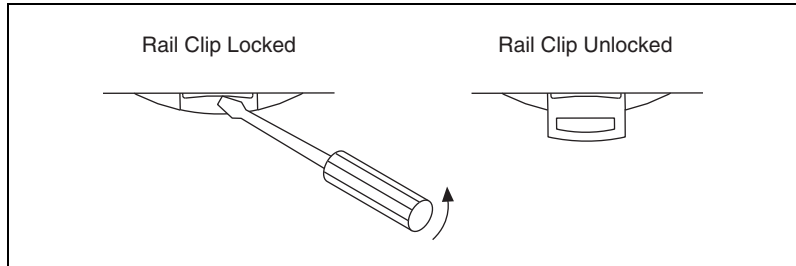

Figure 2-10. DIN Rail Clip
1. Use a flathead screwdriver to open the DIN rail clip to the unlocked position, as shown in Figure 2-10.
- Slide the FBUS-HSE/H1 LD to the desired position along the DIN rail. After the FBUS-HSE/H1 LD is in position, lock it to the DIN rail by pushing the rail clip to the locked position, as shown in Figure 2-10.